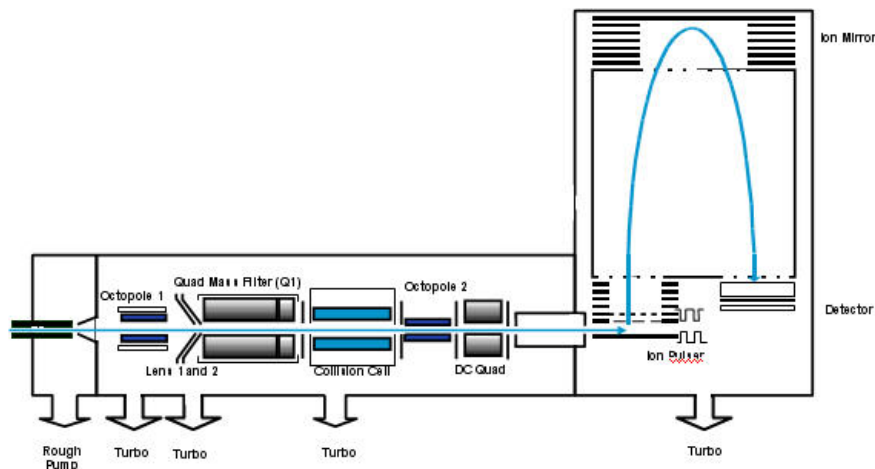

Figure 8 Schematic of Agilent 6520 Q-TOF LC/MS
Figure 8 shows the complete Agilent 6520 Q-TOF LC/MS schematic, including ion source, ion transfer optics, beam shaping optics, ion pulser, flight tube, and detector.
After the API source forms ions, the Agilent 6200 Series TOF or 6500 Series Q-TOF LC/MS system performs the following operations, organized according to the stages of the ion path and the vacuum stages of the TOF or Q-TOF. See Figure 8 on page 28 for details.
- Ion pulser** The nearly parallel beam of ions passes into the time-of-flight ion pulser. The ion pulser is a stack of plates, each one (except the back plate) with a center hole. The ions pass into this stack from the side just between the back plate and the first plate with its center hole. To start the flight of the ions to the detector, a high voltage (HV) pulse is applied to the back plate. The applied pulse accelerates the ions through the stack of pulser plates, acting as a rapid-fire ion gun.
- Flight tube** The ions leave the ion pulser and travel through the flight tube, which is about one meter in length (see Figure 8). At the opposite end of the flight tube is an ion “mirror”, which reflects the ions that arrive near the end of the flight tube towards the ion pulser. Because the ions entered the ion pulser with a certain amount of forward momentum orthogonal to the flight direction in the flight tube, they never return to the ion pulser, but move to where the ion detector is mounted.